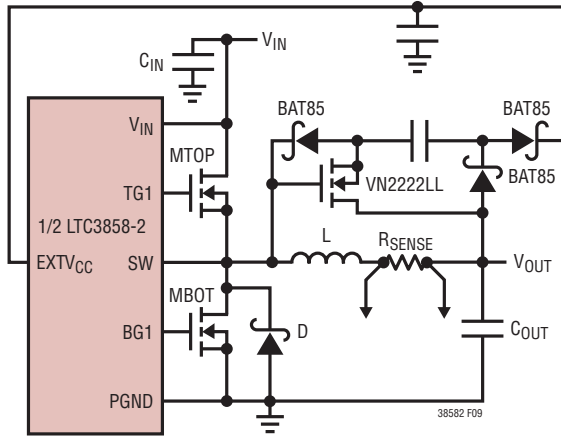

Figure 9. Capacitive Charge Pump for EXT_VCC
4. EXT_V_{CC} Connected to an Output-Derived Boost Network. For 3.3V and other low voltage regulators, efficiency gains can still be realized by connecting EXT_V_{CC} to an output-derived voltage that has been boosted to greater than 4.7V. This can be done with the capacitive charge pump shown in Figure 9. Ensure that EXT_V_{CC} < V_{IN}.